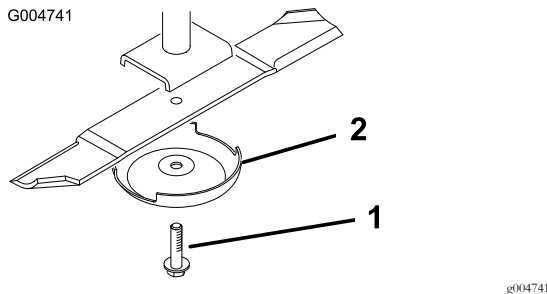

Figure 78
5. Remove the blade bolt, anti-scalp cup, and blade from the spindle shaft (Figure 78).